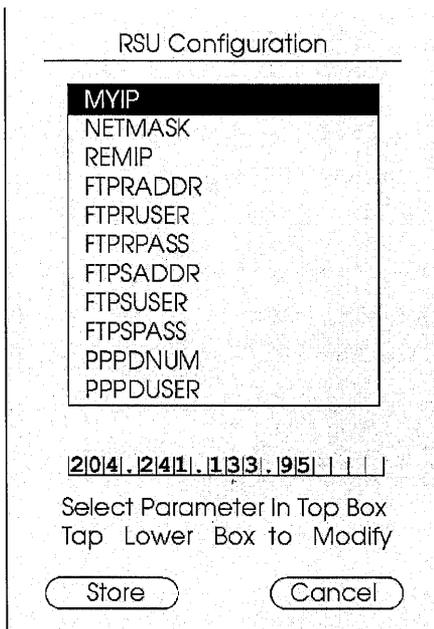

Figure 29
3. Type 411 "ENT" for the configuration menu. The screen below (Figure 29) appears.